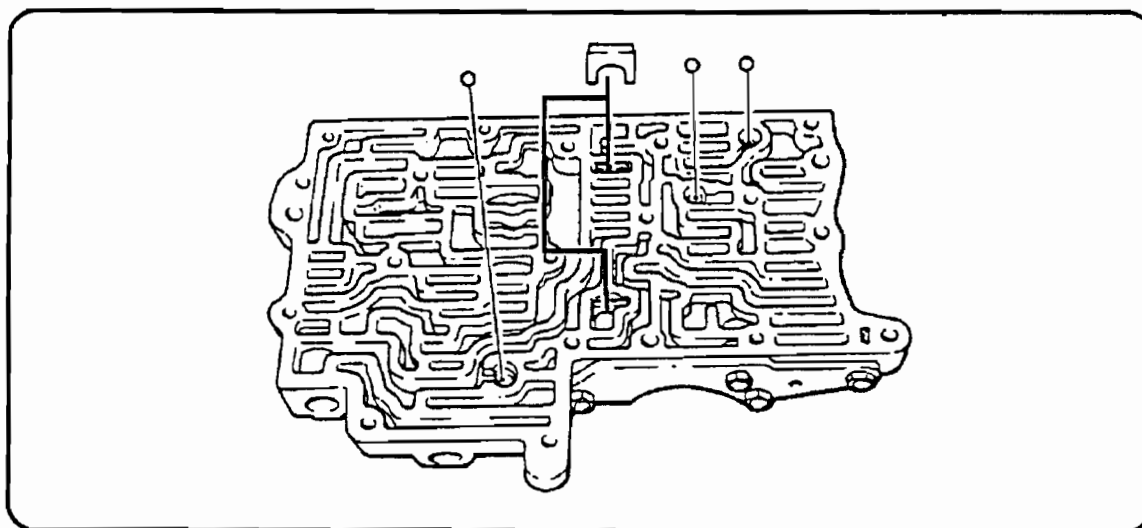

FIGURE 1.
**CAUSE:** If the solenoids are not clogged or damaged, one or both of the stopper plates in the upper valve body may have gotten turned around or installed incorrectly when the valve body was opened for cleaning. The stopper plates can prevent the shift control valve from moving if they are installed incorrectly. See **figure 1** for valve body position.